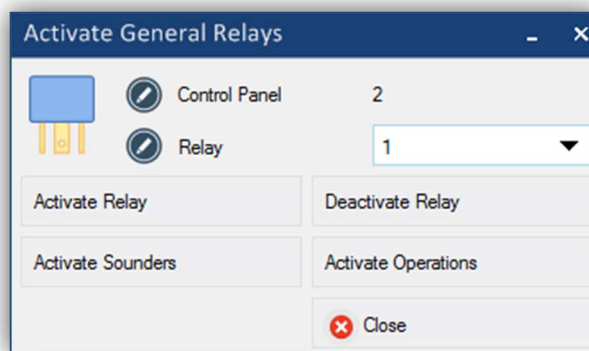

Figure 57. Menu to activate/deactivate logical relays in the control panel.
- The figure 57 shows the activate/deactivate menu of logical relays configured in the control panel. To enter, click on the **Activate relays** button .